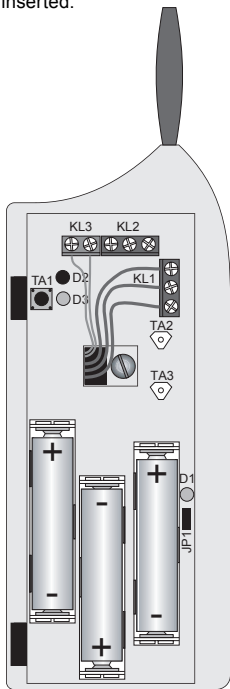

Figure 12
- Insert 3 AAA batteries, making sure that the polarity is correct. See figure 12.